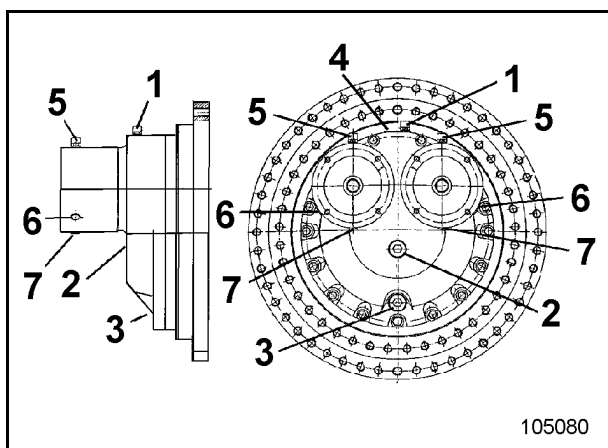

Fig. 3-119:
- Unscrew drain plug (7, Fig. 3-119:) and drain off the oil completely.
- Unscrew breather filter (1 and 5, Fig. 3-119:) and clean in white spirit or parafin.